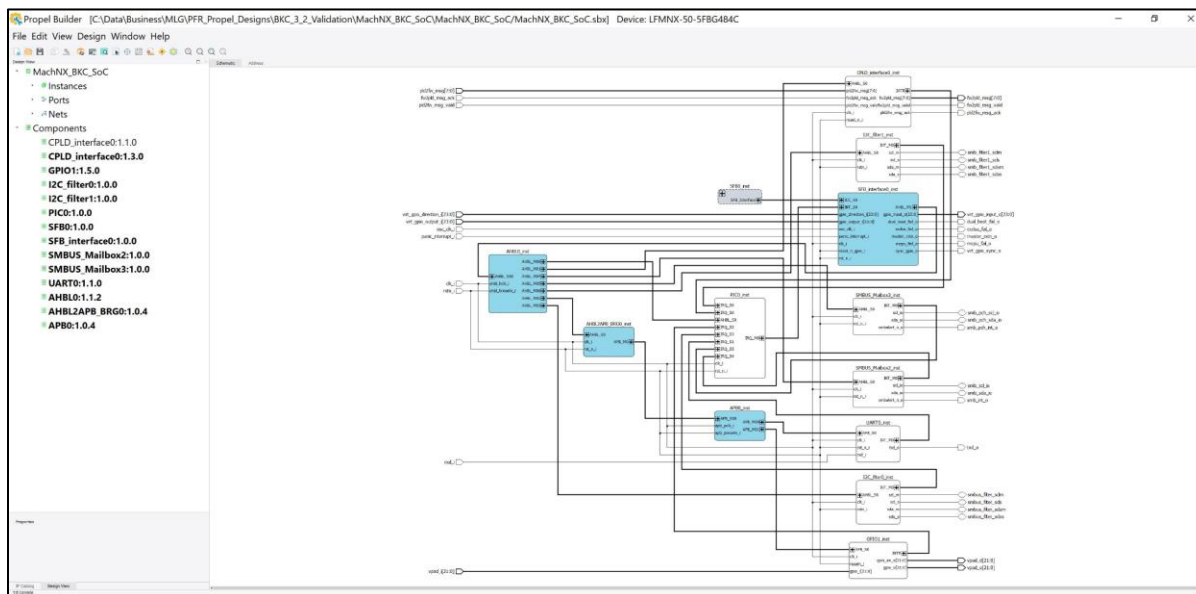

Figure 3.4. Propel Builder
8. Click **Finish**. The SoC design project is created on the workbench, and its design is opened and displayed in Propel Builder, as shown in Figure 3.4.